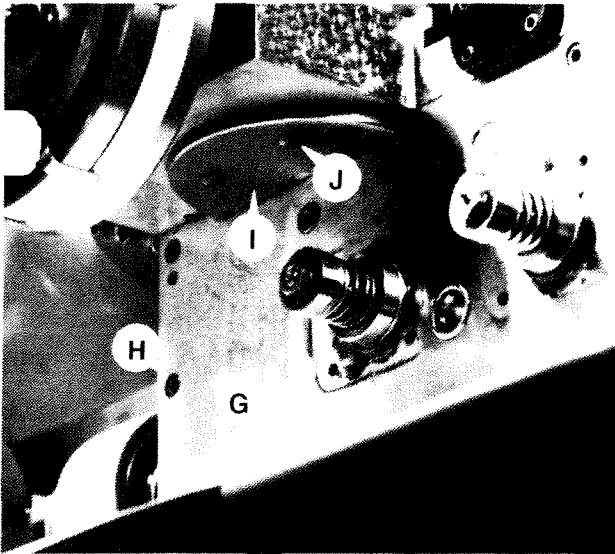

Figure 2.4 - Carriage Cover
Do not misplace the seal under cover "I", Figure 2.4 .
8. Remove two screws "J" and carriage cover "I", Figure 2.4 .
10. Remove nine screws "H" from apron cover "G", Figure 2.4 .
7. Apply Permatex sealant to apron cover "G" and remount the cover using nine screws "H", Figure 2.4 .